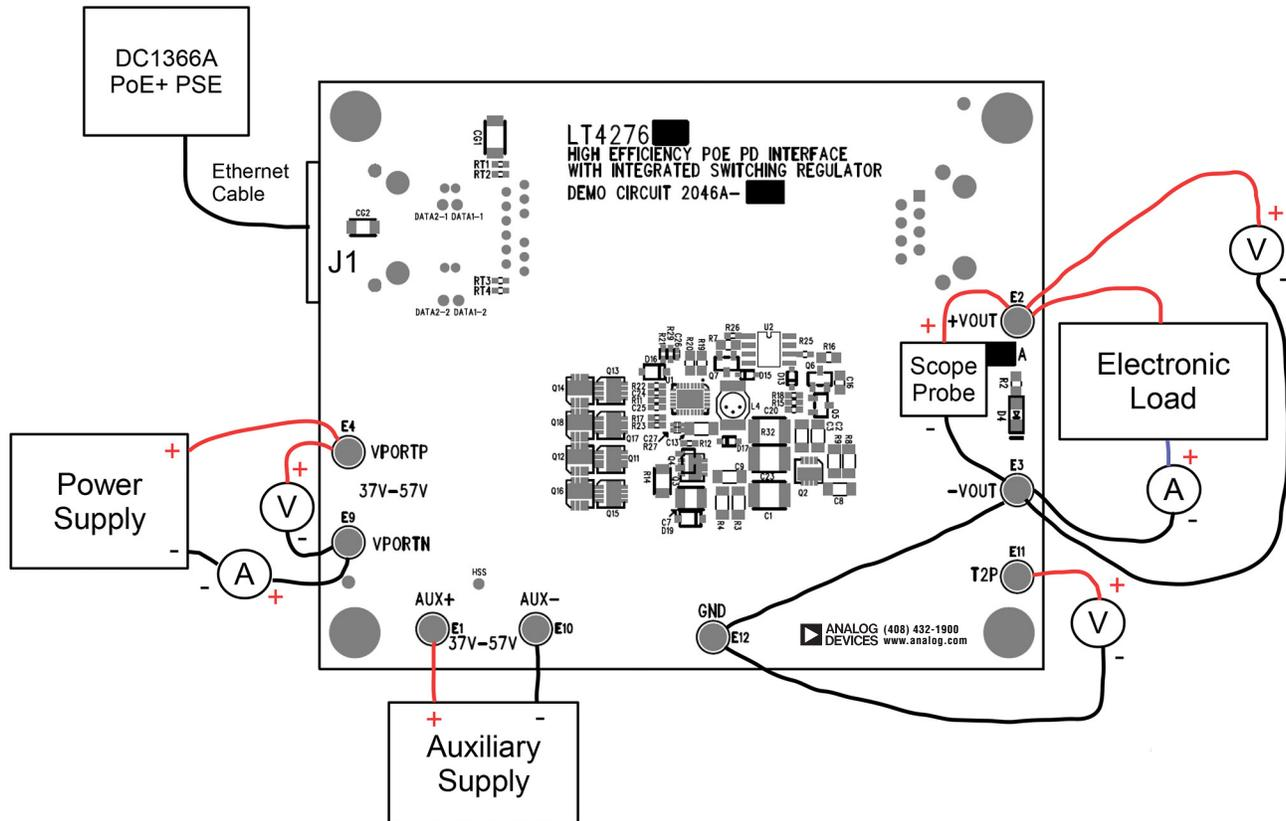

Figure 8. Proper Measurement Equipment Setup
Demonstration circuit 2046A-F is easy to set up to evaluate the performance of the LT4276 in a PoE+ application. Refer to Figure 8 for proper equipment setup and follow the procedure below.
1. Place test equipment (voltmeter, ammeter, power supplies, and electronic load) as shown in Figure 8.
A) Connect a PoE+ capable PSE with a CAT-5 cable to the RJ45 connector, J1. See Figure 8.
B) Or, connect a 37V to 57V capable power supply (Power Supply in Figure 8) across VPORTP and VPORTN.
C) If evaluating the auxiliary power supply (Auxiliary Supply in Figure 8), connect a 37V to 57V capable power supply across AUX+ to AUX-.